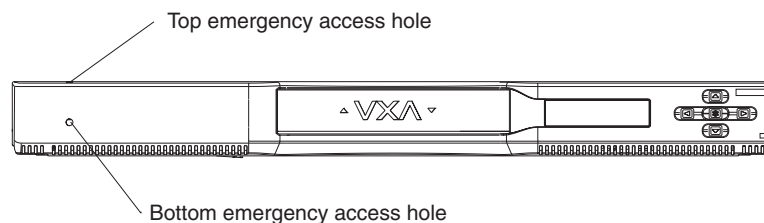

Figure 19. Access hole locations
For security, you can block access to the gear shaft from the hole in the front of the faceplate. A screw that is accessible from the hole in the top of the faceplate (see Figure 19) can be lowered in front of the gear shaft. To lower this screw, use a small Phillips screwdriver to turn the screw clockwise until it blocks access to the gear shaft.
1. Carefully insert a small Phillips screwdriver into the top access hole (see Figure 19) on the top front of the autoloader. Unscrew the security blocking screw.
2. Carefully insert a small Phillips screwdriver into the bottom access hole (see Figure 19) on the front of the autoloader. Make sure that the screwdriver engages the head of the gear shaft.